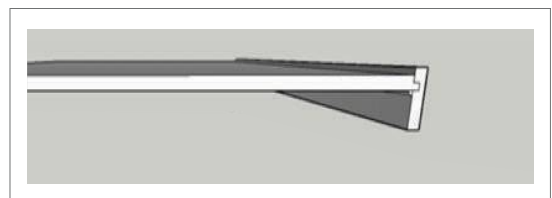

Fig.8
- Ensure the connection between rebate and the groove is neither too tight nor too slack (Fig.8)
- Machine the edge using a router bit of the "Waterfall"-profile and with Nylon bearing attached (Fig.8).